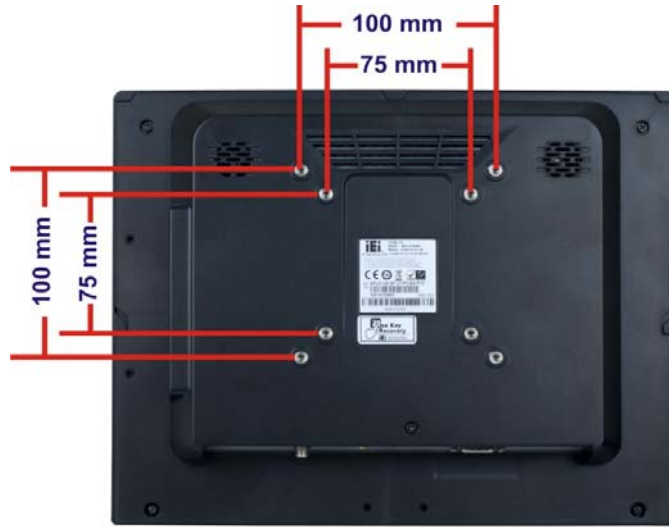

Figure 3-26: Arm Mounting Retention Screw Holes
Step 3: Align the retention screw holes on the mounting arm interface with those in the flat bezel panel PC (**Figure 3-26**).